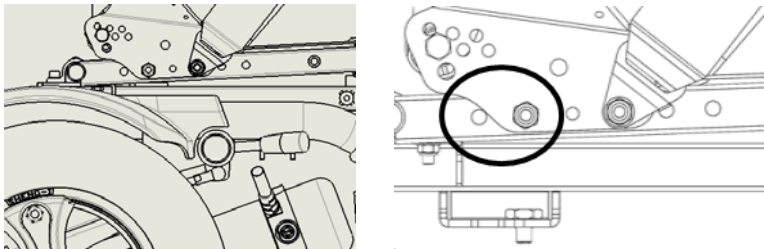

Figure 5.3.8-2
5.3.8.5 The KISS seat is shown as Figure 5.3.8-3.
5.3.8.6 Use the #4 Allen Key Wrench to loosen the screws A and remove the screw B on both sides of the backsupport frame. Adjust the base plate forwards or backwards to accommodate the user's needs. (Figure 5.3.8-4). Re-tighten the screws.